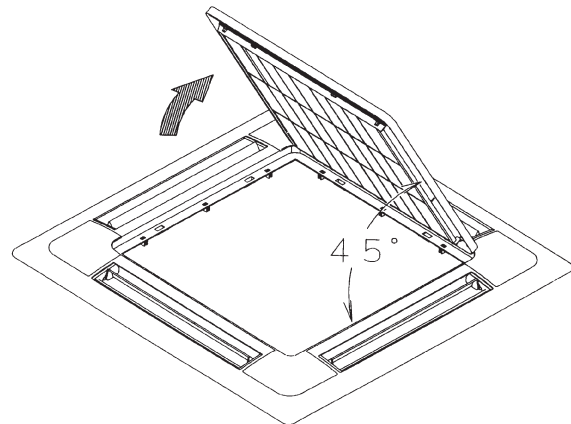

Fig. 2
- ② Detach the suction grille from the decoration panel by lifting the grille up approximately 45 degrees. (Refer to Fig. 2)